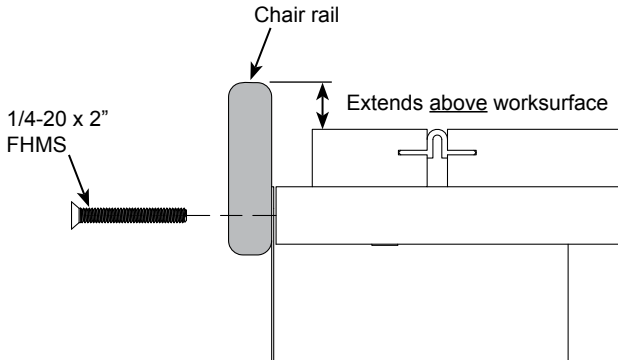

Figure 3A
2. Attach the chair rail with (2) 1/4-20 x 2" FHM screws as shown. **Figure 3A, 3B.** The chair rail should extend above the worksurface, and the countersunk holes should be on the outside.